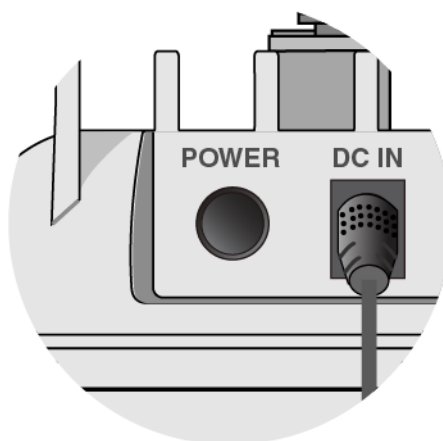

Figure 30. DC Power On/Off Button
4. Push the DC Power On/Off Button on the wireless access point to the “IN” position to turn on the DC connector. Refer to Figure 30.